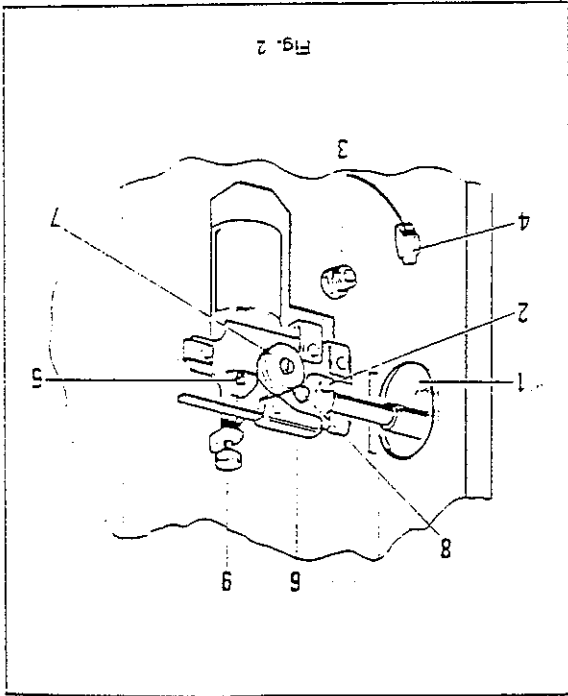

Fig. 2
The welding torch, complete with gas hose and trigger cable, must be fitted correctly (pos. 1 - fig. 2). The brass end must be fixed on the wire feeder by the nut (pos. 2 - fig. 2).
The gas hose and the push buttons must be connected to the relating nipples (pos. 3 - fig. 2) (pos. 4 - fig. 2).
Open the side panel and insert the spool (diam. 300 mm) on the proper support, keeping the exit of the wire upward and centring the protruding stud of the support into the corresponding hole in the spool. For the loading of spools of smaller diameter, use the proper spacer supplied. Unwind the coil anticlockwise and insert the end of the wire into the guide (pos. 5 - fig. 2). Check that the drive roll (pos. 6 - fig. 2) has pivoted on the external side the diameter corresponding to the wires used. If not, reverse the roll.
Insert the wire in the torch liner (pos. 7 - fig. 2) for a few centimetres. Lower the idler roll being sure that the wire enters in the drive roll groove (pos. 3 - fig. 2). The right pressure is the minimum that prevents the rolls from slipping. Excessive pressure could cause wire deformation and raveling at the liner inlet (pos. 3 - fig. 2); insufficient pressure causes uneven welding.